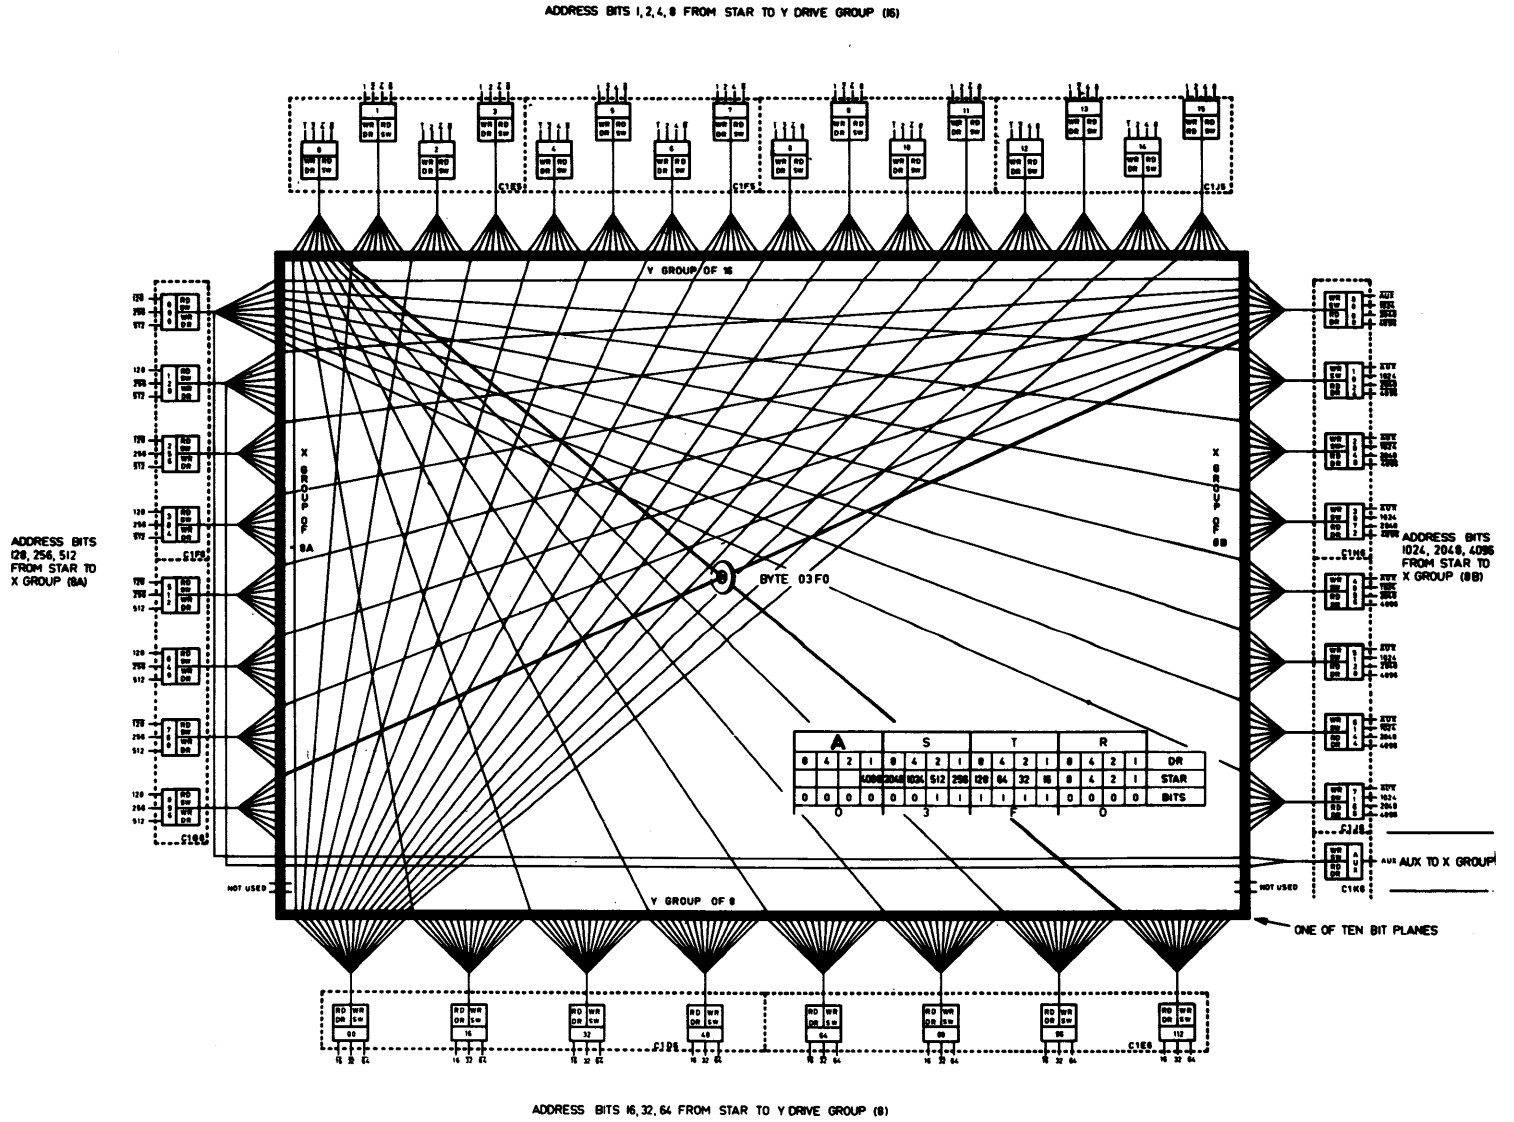

Figure 2-17 8K Storage with 8K Planes
- The only difference between the 4K storage and the 8K storage is in the doubling of the 32 X lines. See Figure 2-17.
Figure 2-17 illustrates the distribution of the Driver/ Switches in the 8K Storage.